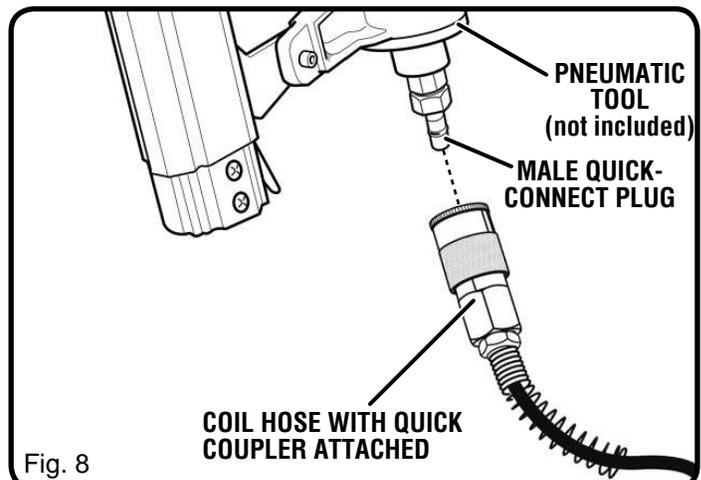

Fig. 8
- Connect air powered tools to air hose by inserting the male quick-connect plug to the quick-coupler at the end of the coil hose (see Fig. 8).
- Turn the switch **ON (I)**.